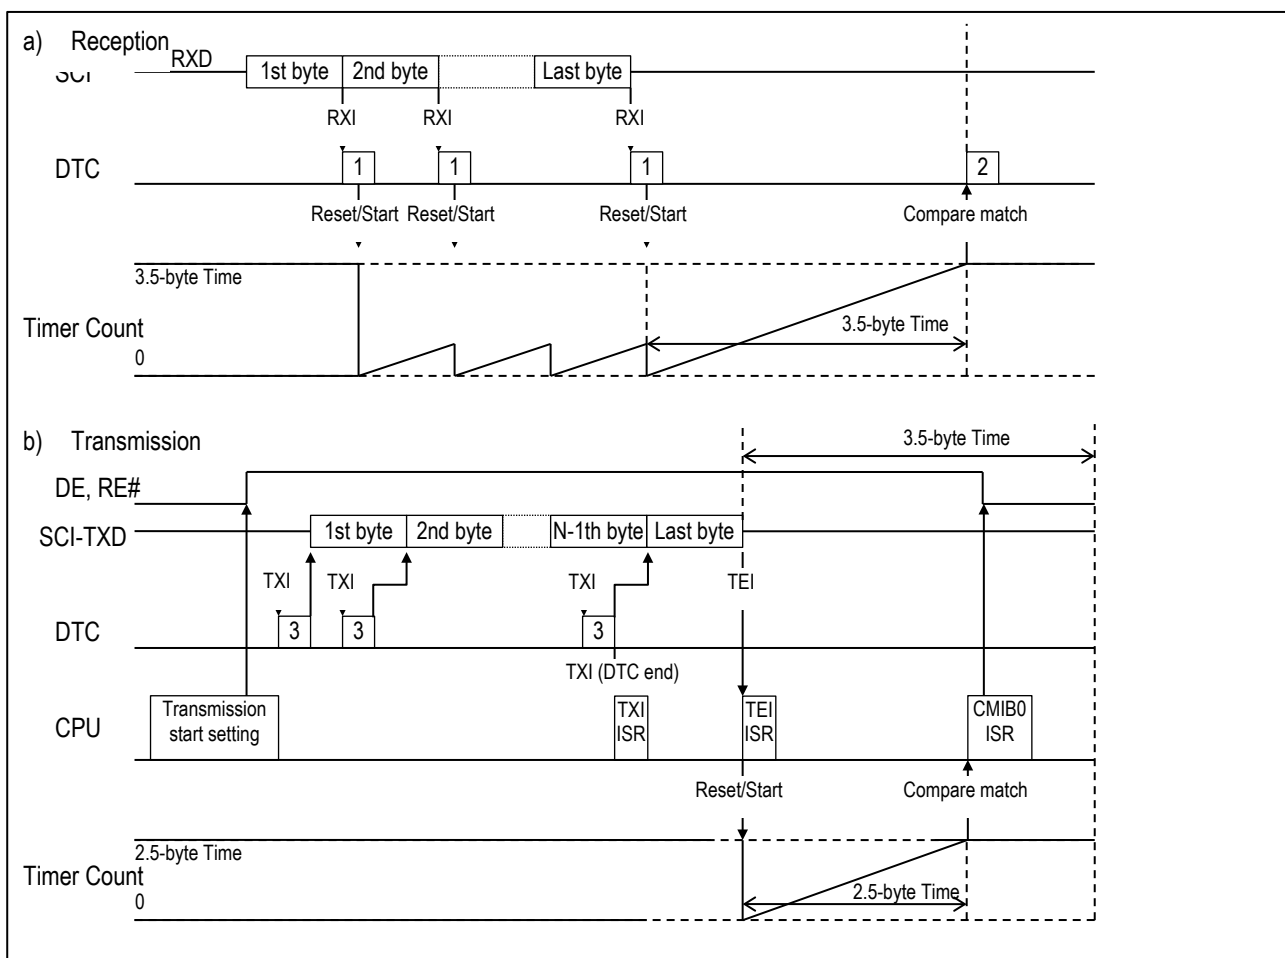
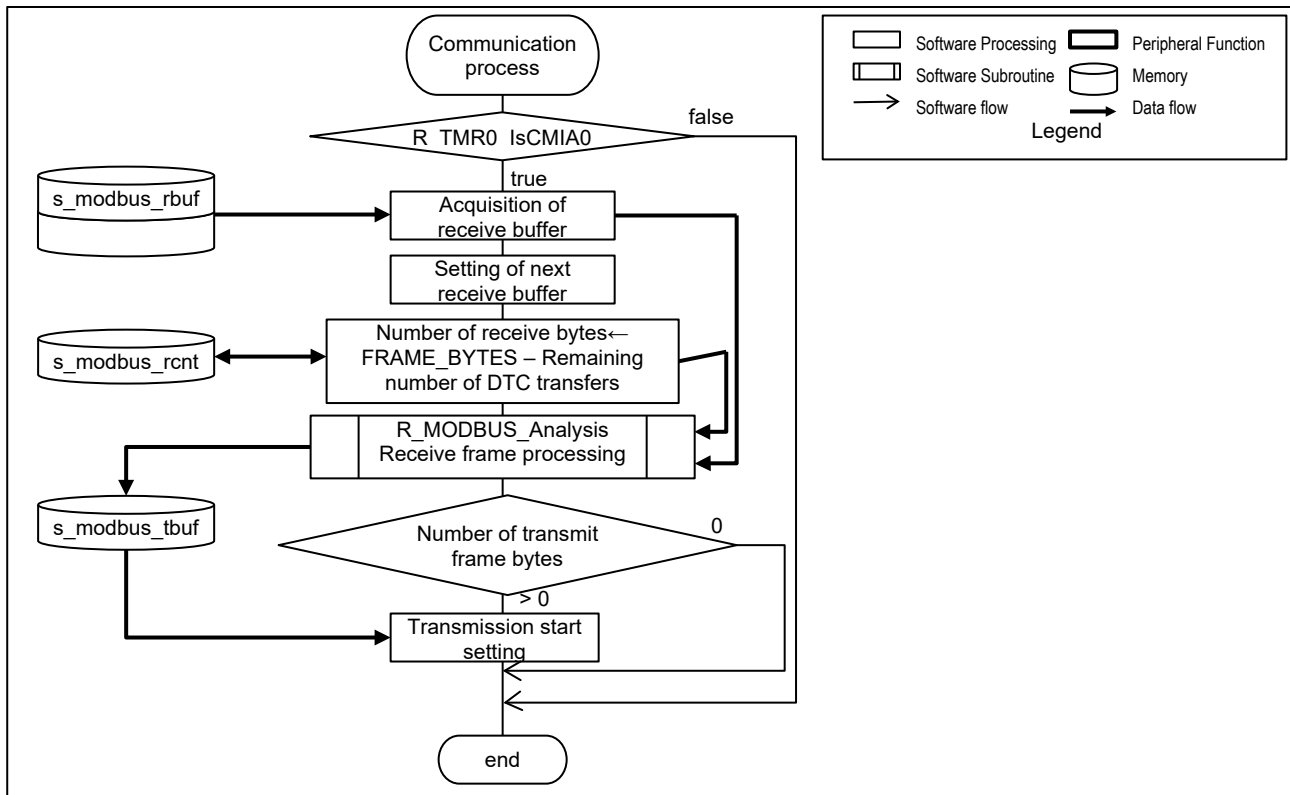

Figure 8-3 Modbus Communication Timing Chart
Figure 8-4 Modbus Communication Process Flow
A communication timing chart is shown in Figure 8-3, and the communication process flow is shown in Figure 8-4.
- (1) At the RXI1 interrupt request for every 1-byte reception, DTC transfer 1 (DTC\_RXI1) performs the following:
- (2) On TMR0 compare match A interrupt request (CMIA0), DTC transfer 2 (DTC\_CMIA0) performs the following:
- (3) As shown in Figure 8-4, when CMIA0 is detected, the program acquires and clears the DTC transfer count and processes the Modbus receive frame in the receive buffer.
- (1) To prepare for transmission, the program performs the following in "Transmission start setting" in Figure 8-4.
- (2) On TXI1 interrupt request, DTC transfer 3 (DTC\_TXI1) transfers 1 byte of the transmission frame to the transmission register.
- (3) On TXI1 interrupt request due to the completion of DTC transfer 3 (DTC\_TXI1), the interrupt handler performs the following actions:
- (4) On TEI1 interrupt, the interrupt handler performs the following actions: